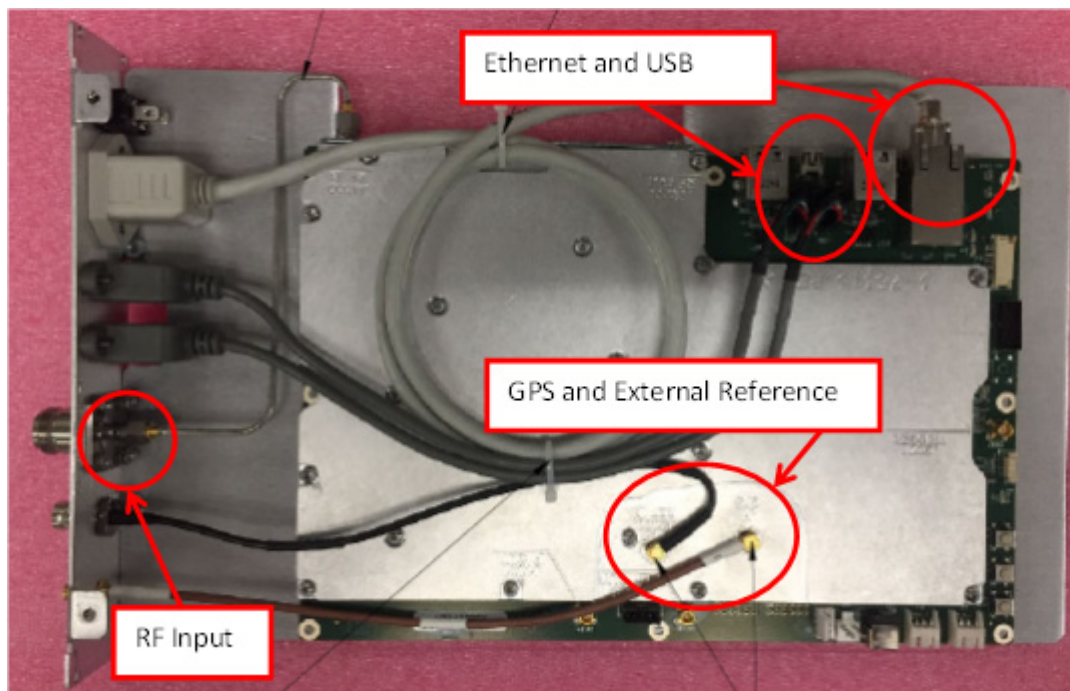

Figure 3-3. Front Panel Cable Connections
2. Referring to Figure 3-3, disconnect the Ethernet, USB, RF Input, External Reference, and GPS cables.